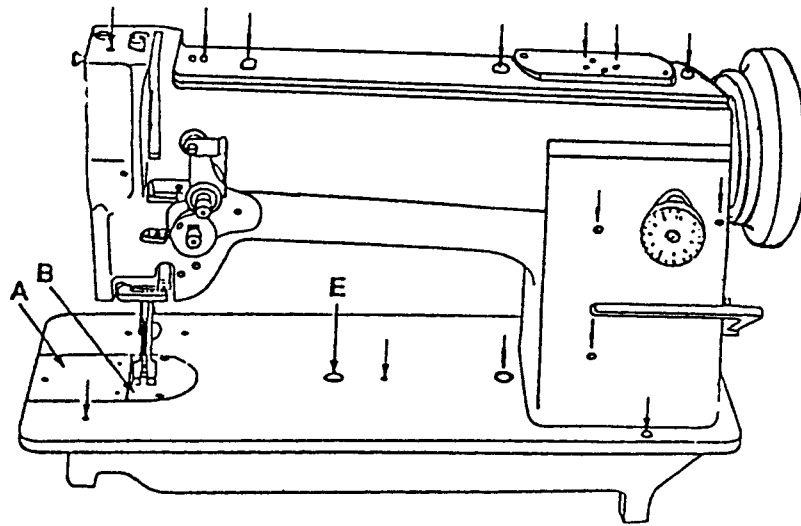
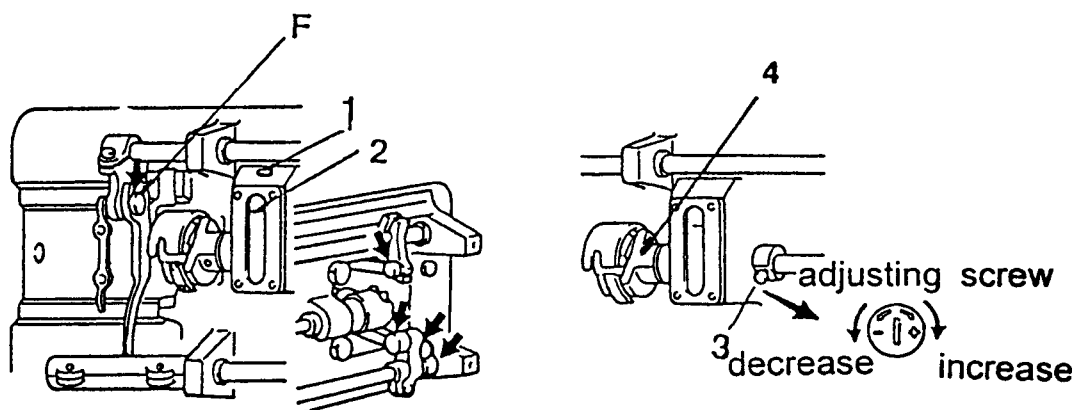

Fig.2
Fig.5
The arrows on the following illustration indicate oiling points. (Fig.2-Fig.5)
I FOR OILING TO HOOK (Fig.5)
II OILING ADJUSTMENT TO HOOK (Fig.5)
1. Lift the needle bar to its highest point, place the feed dog at this side in its travel turning the machine pulley, and open the slide plate (A, Fig.2).
The sewing hook and its mechanism are protected by a safety clutch. If it should become necessary to re-engaged the safety clutch, depress button (E, Fig.2) in the bed plate of the machine. At the same time, turn the machine pulley until the locking mechanism re-engages the drive shaft beneath the bed of the machine. Open bed slide plate and rock the machine pulley back and forth to remove any foreign matter may have lodged itself in the hook. Do not use any sharp-edged tools, etc., lest the hook be damaged.
2. Loosen bell crank screw (F, Fig.5) and adjust the height of the feeder by raising or lowering it.
3. Lay down the machine head toward the other side, and loosen the screw (I, Fig.5).